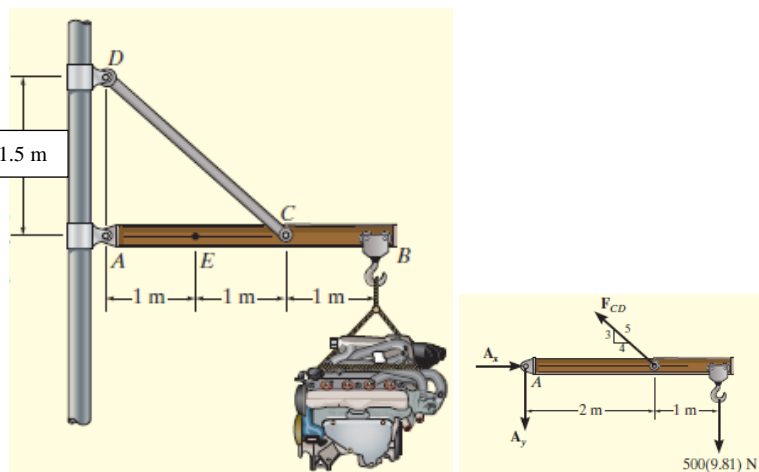

Fig. 3
3. The 500-kg engine is suspended from the crane boom in Fig. 3. Determine the resultant internal loadings acting on the cross section of the boom at point E.